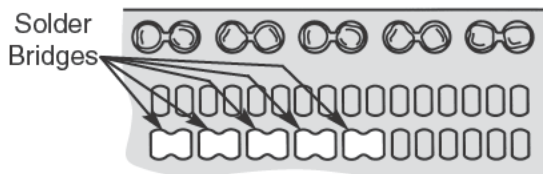

Figure 10
1. Make five solder bridges using the second row of single pads, starting from the left side (see Figure 10).